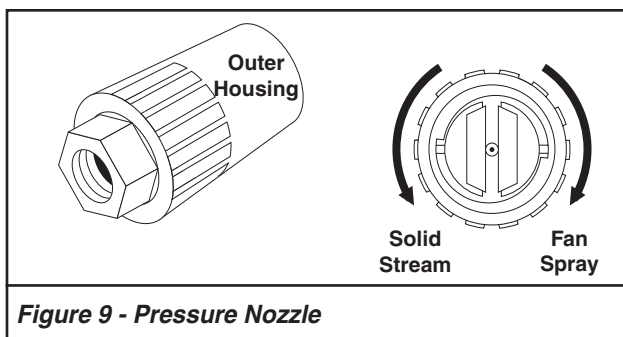

Figure 9 - Pressure Nozzle
2. Adjust the width of the pressure nozzle spray pattern to meet your cleaning needs. Adjustment is made by rotating the outer housing of the pressure nozzle, (refer to **Figure 9**). The spray pattern can be adjusted from 0 degrees solid stream to 80° fan spray. Release the trigger of the trigger gun prior to making any spray pattern adjustments.